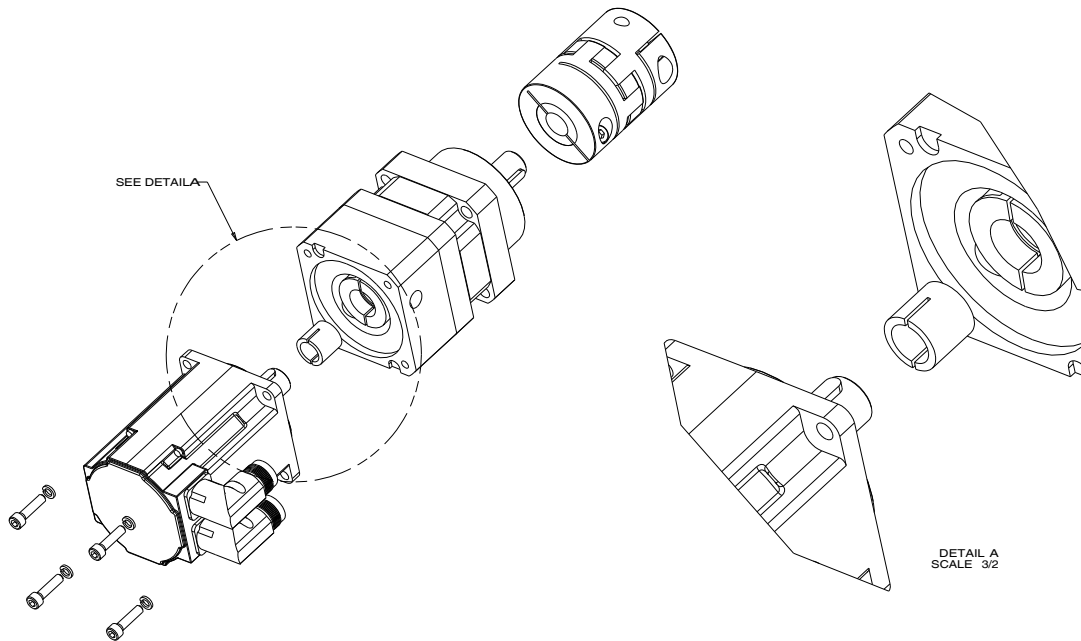

FIG. 19
2. Slide the gear head, bushing into the drive coupling and align slots in drive coupling and bushing. See FIG. 19.